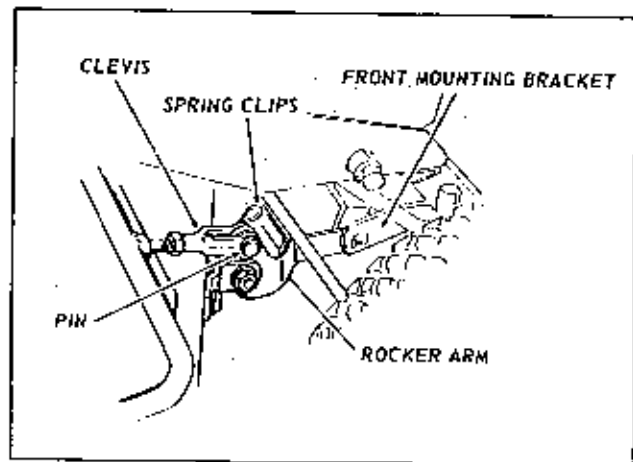

FIGURE 2
2. Connect the rockers arms to front mounting brackets under the tractor, by using pins and hair pin cotters as shown in Figure 2.